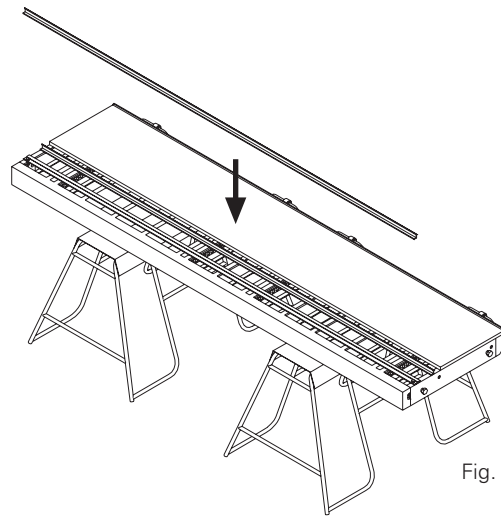

Fig. 3
4. Position chamfer strip next to the plywood sheet. Fig.3